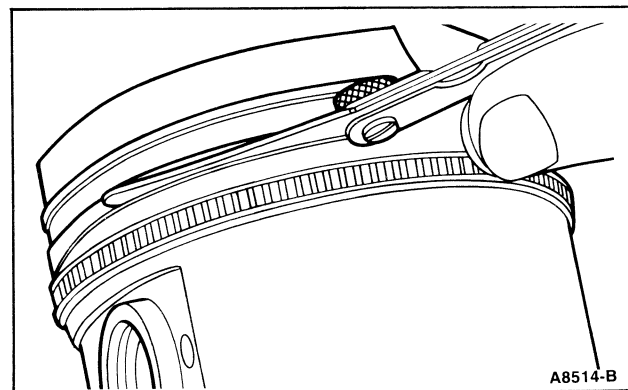

FIG. 14 Checking Piston Ring Side Clearance
6. Check the ring side clearance of the compression rings with a feeler gauge inserted between the ring and its lower land (Figure 14). The gauge should slide freely around the entire ring circumference without binding. Any wear that occurs will form a step at the inner portion of the lower land. **If the lower lands have high steps, the piston should be replaced.**